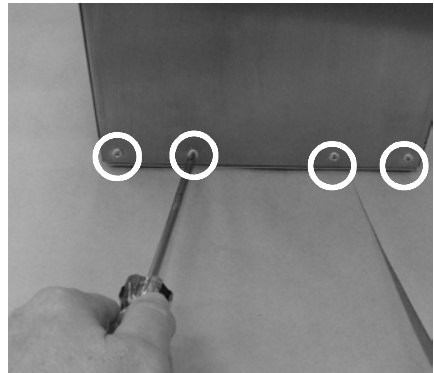

Figure 6-13 Removing Blower Plug and Screws
4. See Figure 6-13. Unplug the blower cable from the receptacle. Remove the M4 x 10 Philips screws next to the blower cable receptacle.
2. See Figure 6-13. Replace the eight screws at the base of the lamphead (4 front and 4 rear). Install the two screws into the cover on both sides of the unicable receptacle. Tighten the screws to 1.35 N•m (12 in-lbs).